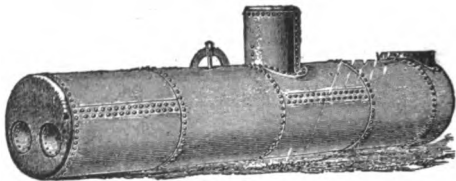

FIG. 1.—TWO-FLUE BOILER.
A. Passing the gases of combustion through two large parallel flues, instead of one. (See Fig. 1)